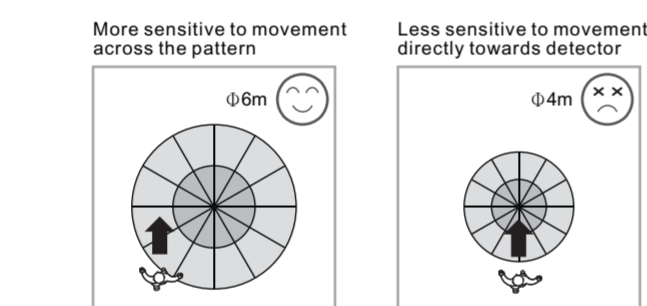

FIG.3
3.1.2 Pay attention to the walking direction in the test proceeding, the detection area cross to detector is up to 6m, and frontal to detector is 0.4m (See FIG.3).